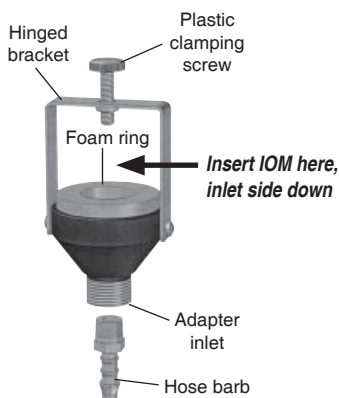

Figure 10. IOM Calibration Adapter
Calibration Adapter Setup (Figure 10)
1. Insert IOM with loaded filter cassette into the calibration adapter (*see Calibration Adapter Setup and Figure 10*).